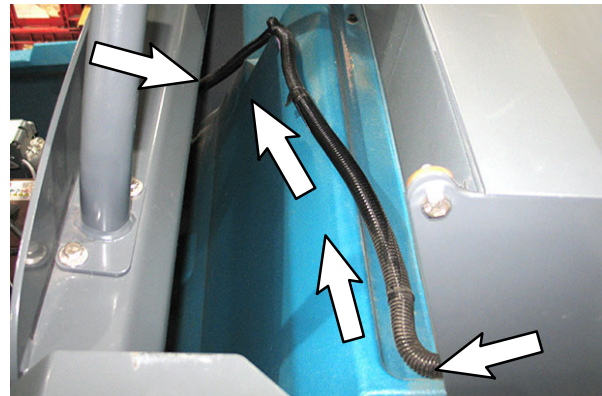

FIG. 4
8. Route the wand electric harness (49) out away from the vacuum wand assembly, across the front of the filter box cover, and down to where the main harness assembly is located. (Fig. 4)